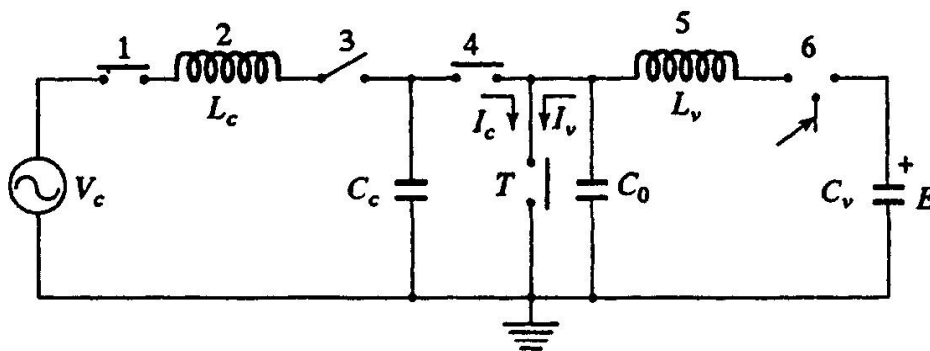

Fig. 2 Schematic diagram of synthetic testing of circuit breakers
Due to very high interrupting capacities of circuit breakers, it is not economical to have a single source to provide the required short circuit and the rated voltage. Hence, the effect of a short circuit is obtained as regards to the intensity of the current and the recovery voltage as a combination of the effects of two sources, one of which supplies the a.c. current and the other the high voltage. In the initial period of the short circuit test, the a.c. current source supplies the heavy current at a low voltage, and then the recovery voltage is simulated by a source of comparatively high voltage of small current capacity. A schematic diagram of a synthetic testing station is shown in Fig. 2. With the auxiliary breaker (3) and the test breaker (T) closed, the closing of the making switch (1) causes the current to flow in the test circuit breaker.